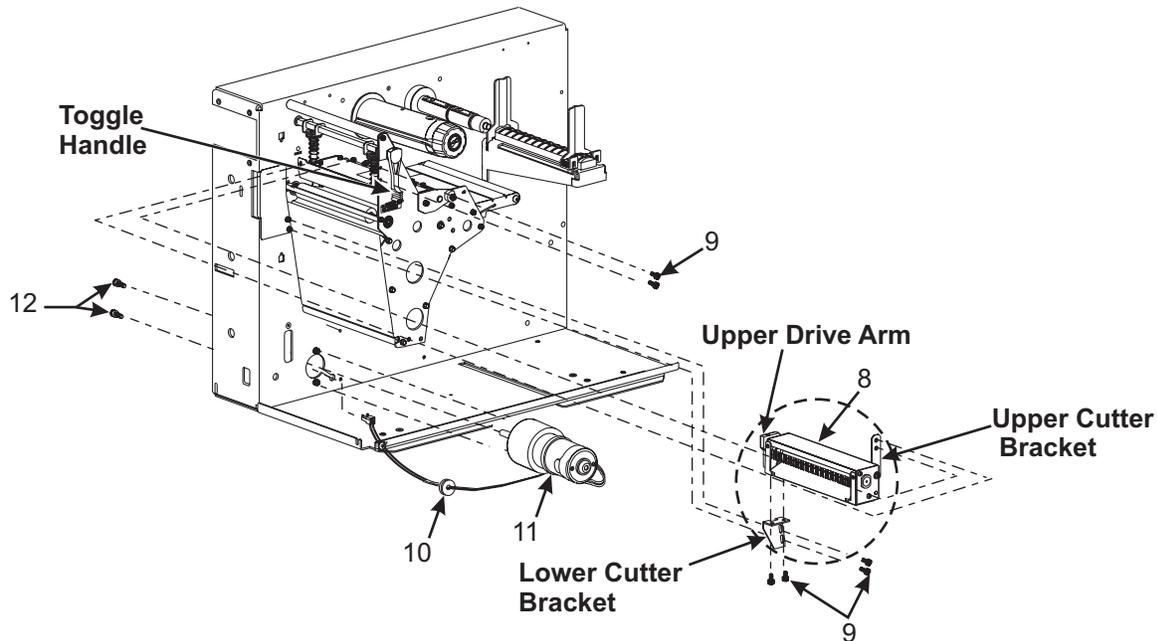

Figure 6-34. Mechanical Side Assembly
1. Refer to Figure 6-34. Locate the pre-assembled cutter mechanism. The upper cutter bracket at the right rear corner of the cutter is placed in a horizontal position for shipping. Loosen the mounting screw and rotate the bracket to a vertical position and snug up the screw. Do not tighten.